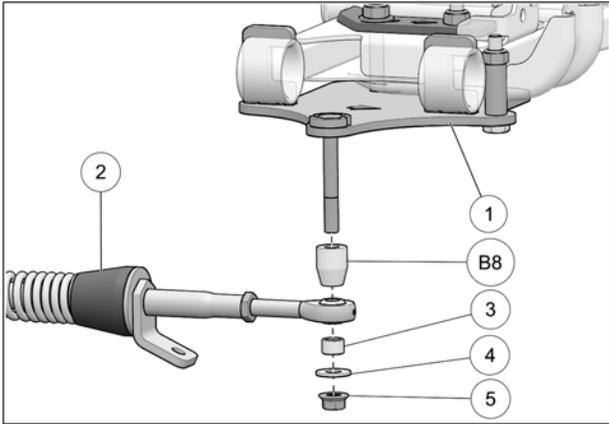

Fig. 14
12. Attach stabilizing rod (2) to anchor bracket (1), using the long spacer bushing (B8), the short spacer bushing (3), flat washer (4) and nut (5). Torque to 70 N•m [52 lb•ft]. See Fig. 14